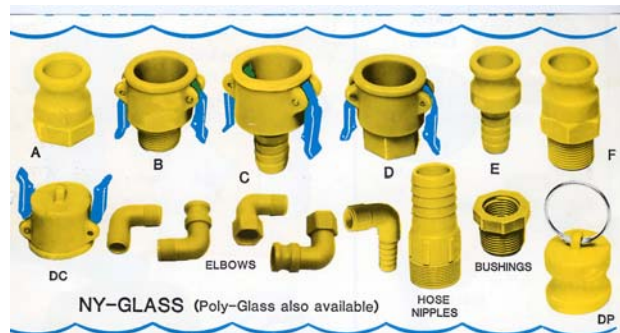

Figure 2. example connector parts
2.3 Skimmer port sizes and flow rates (Figure 2)
Hoses are PVC flexible suction with "NY-GLASS" light weight fittings. Each hose section is 25' in length and has two part "C" connections from Figure 2.